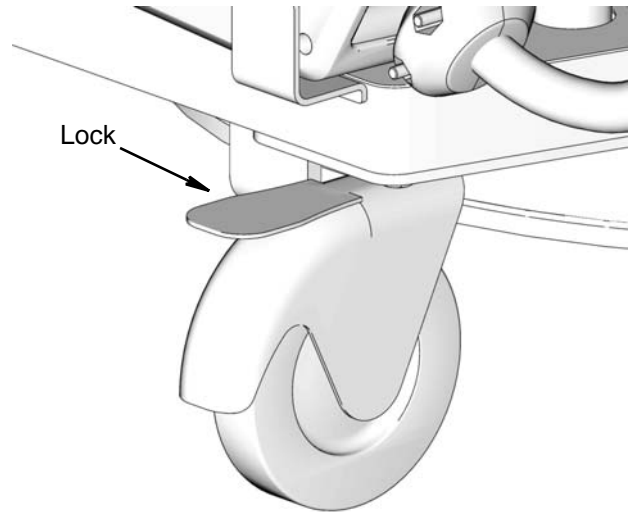

FIG. 35
8. Lock wheel casters to hold cart in place during operation (FIG. 35).